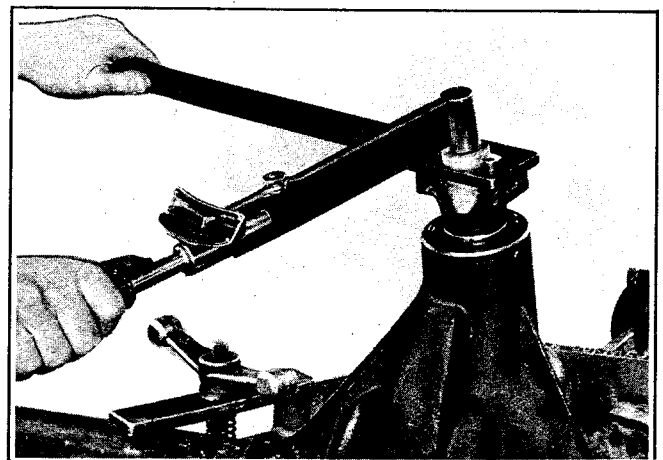

Figure 2-18. Tightening Nuts with Torque Wrench and Socket
16. Install oil slinger (27), gasket (29), and seal (28).
17. Install end yoke (23) or coupling (23A), washer (21) or retainer (21A), and nut (20). Finish tightening nut with torque wrench and socket to 50 to 70 ft.-lbs. See Figure 2-18. Where applicable, bend one side of retainer (21A) against flat on nut (20), using a punch through hole in side of coupling 23A, Figure 2-4.